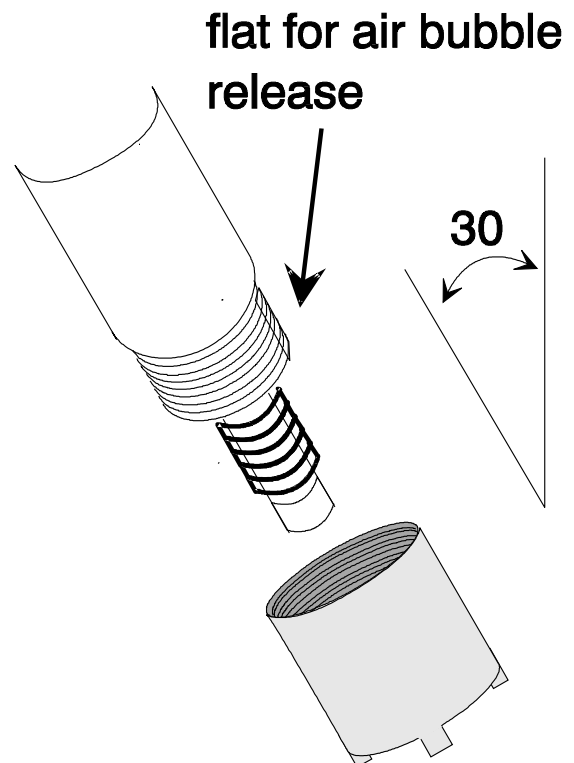

Figure 21 Step 5, Membrane & Cap Installation
- Next hold the cap like a cup, (Figure 21) and slowly lower the electrode coils vertically down into the cap until the threads touch. Rotate the sensor body until you can see the flat area through the threads. Slowly rotate the cap on, allowing the excess electrolyte and bubbles to overflow up the flat. Continue to slowly rotate the cap until a firm stop is reached.